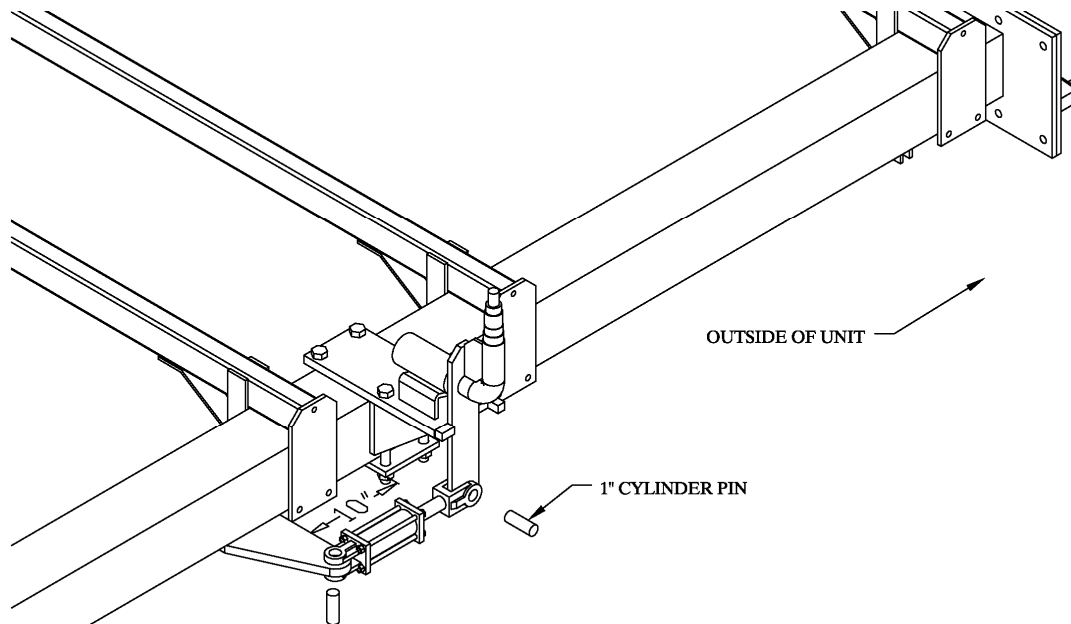

Figure 21
2. Attach the hydraulic cylinders with the open ports facing down as shown. Refer to Figure 21. Connect the rod end of the cylinder to the transport wing wheel axle and the base end of the cylinder to the fixed cylinder post. Note: When the cylinder is fully retracted the transport wing wheel should be in line with all other transport wheels so that the entire unit can be pulled straight.